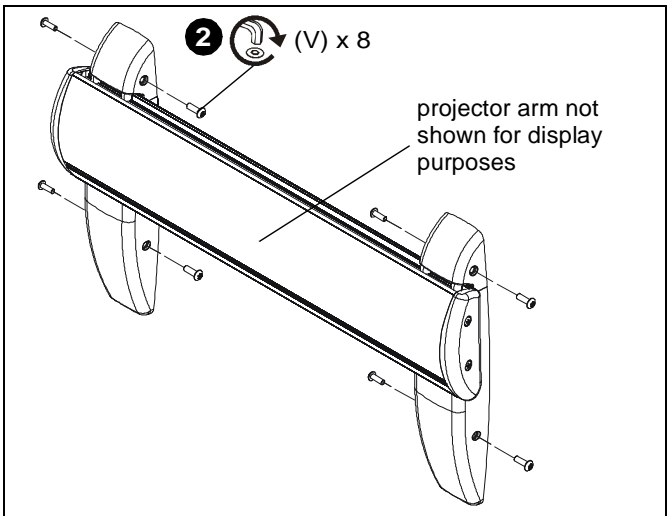

Figure 42
2. Install eight #8-32 x 1/2" button head security screws (V) into holes in wall bracket covers. (See Figure 42)